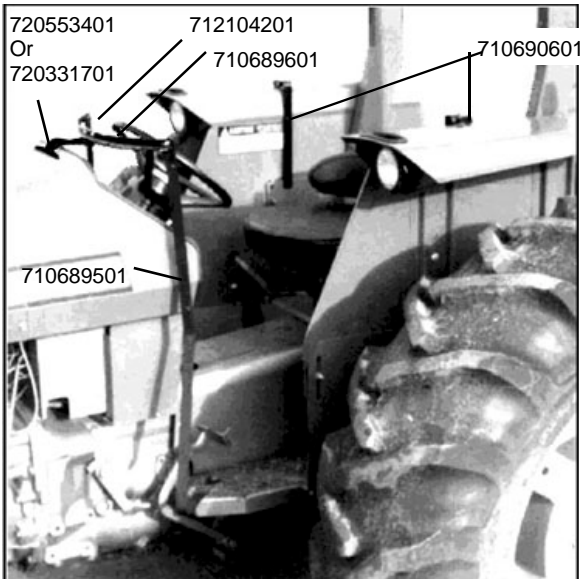

Figure 1
2. Select the correct mount bracket and bolt to the tractor cowling in front of the steering wheel using two (2) 5/16x1" hex bolts. Use #720331701 mounting bracket for older tractors (Pre 1982) and # 720553401 mounting bracket on newer tractors (1982 and after) See figure 1.
3. Place the motor cover over the tractor and slide the # 712104201 yoke into the wide hem at the top. Bolt the yoke to the mounting bracket using two (2) 1/4x3/4" hex bolts and nut. Nut to be on back of bracket.
4. Slide # 710689501 LH door post and #710689601 RH door post up into wide hems at the rear of the motor cover. Bolt the top of the door posts to the yoke using 1/4x1" hex bolts and nuts. Bolt heads to the back, nuts to the front. Ensure door post edge and yoke end are flush. Bolt the bottom of the door posts to the steps using 3/8x1 1/2" hex bolts and nuts. See figure 1
7. Place the # 710690601 latches up under the rear bottom edge of the door against the fender. Mark the fender through the holes in the latch and drill 11/32" diameter holes in the fender. Bolt the latch to the fender using 3/8x1 1/2" hex bolts and nuts. See figure 1